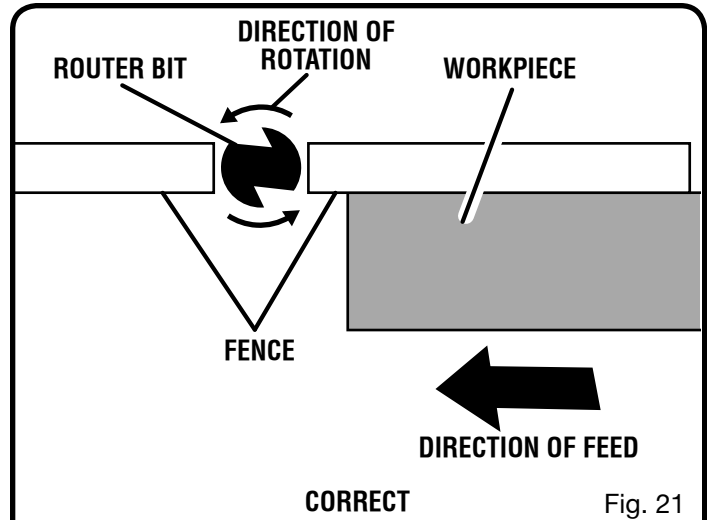

Fig. 21
See Figures 21 - 23.
- A groove can be cut in the workpiece by adjusting the fence back from the cutter. When cutting a groove, feed the workpiece from right to left. When widening an existing groove, make certain that the side being cut is against the leading edge of the cutter. This would be the side farthest from the fence when the workpiece is fed from right to left. As shown in figures 21 - 23.